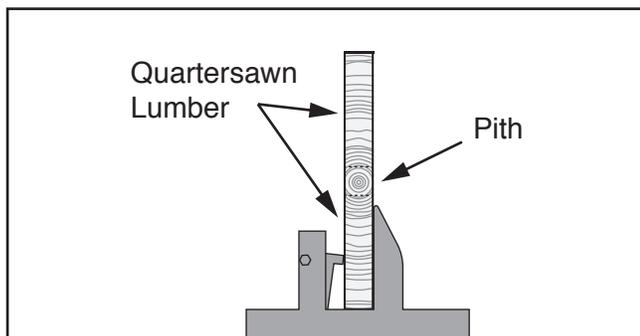

Figure 93. Pith to be removed from board.
15. Clamp board with pith to track bed, using log supports to ensure board is perpendicular to track (see **Figure 93**).
16. Cut just above pith, then remove resulting quartersawn board from board secured to track (see **Figure 93**).
17. Cut just below pith. Remove and discard pith (see **Figure 93**).